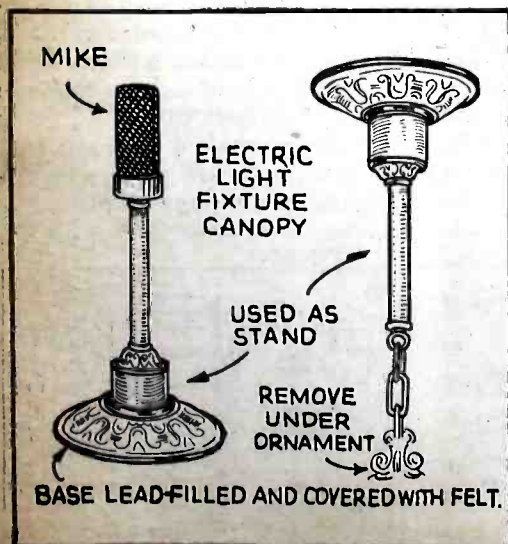

Fig. 3. Part of an old lighting fixture, plus a threaded pipe, makes attractive desk mike stand.
Fig. 3. The simplified circuit of the flux meter using only 2 tubes. Here only one oscillator is used (V1). Coupled to this is a V.-T. voltmeter. A change in frequency in the oscillator is reflected in the V.-T. voltmeter circuit—the difference being read on a calibrated scale.
**N**OVEL IMPROVISED DESK STAND FOR MIKE. The inexpensive desk stand for a velocity mike, as shown in Fig. 3, can be made by using a discarded cast-iron or heavy brass light-fixture canopy for the base and an 18-inch piece of pipe threaded to fit the coupling of the mike. The canopy and the pipe should be painted a dull black and, if necessary, the base can be weighted by using a mixture of scrap metal and sealing compound or lead. A piece of felt to cover the bottom of base unit should be cemented on.
Experience will show that a "desk" or "banquet" mike-stand should be of a predetermined fixed height to avoid the trouble and embarrassment caused by nervous speakers trying to steady themselves by adjusting the height of the stand and thereby causing funny noises to come out of the loudspeaker units. See Fig. 3.